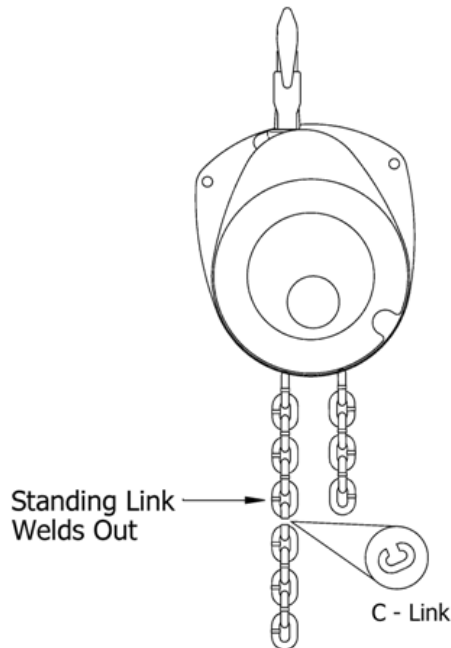

Figure 6-10 C-Link Install
- 6.5.3 Hang hoist with the capacity label facing you. Refer to figure 6-10.
- 6.5.5 Attach one end of load to the factory installed leader chain on the LEFT side of the hoist using an open or "C" link. Refer to figure 6-10. Make certain the weld on the vertical (standing) link is facing away from the load sheave.